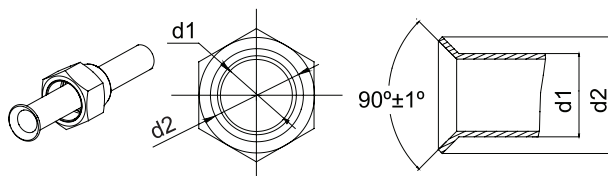

Fig.11
- (1). Cut the connection pipe with the pipe cutter and remove the burrs.
- (2). Hold the pipe downward to prevent cuttings from entering the pipe.
- (3). Remove the flare nuts at the stop valve of the outdoor unit and inside the accessory bag of the indoor unit, then insert them to the connection pipe, after that, flare the connection pipe with a flaring tool.
- (4). Check if the flare part is spread evenly and there are no cracks (see Fig.11).